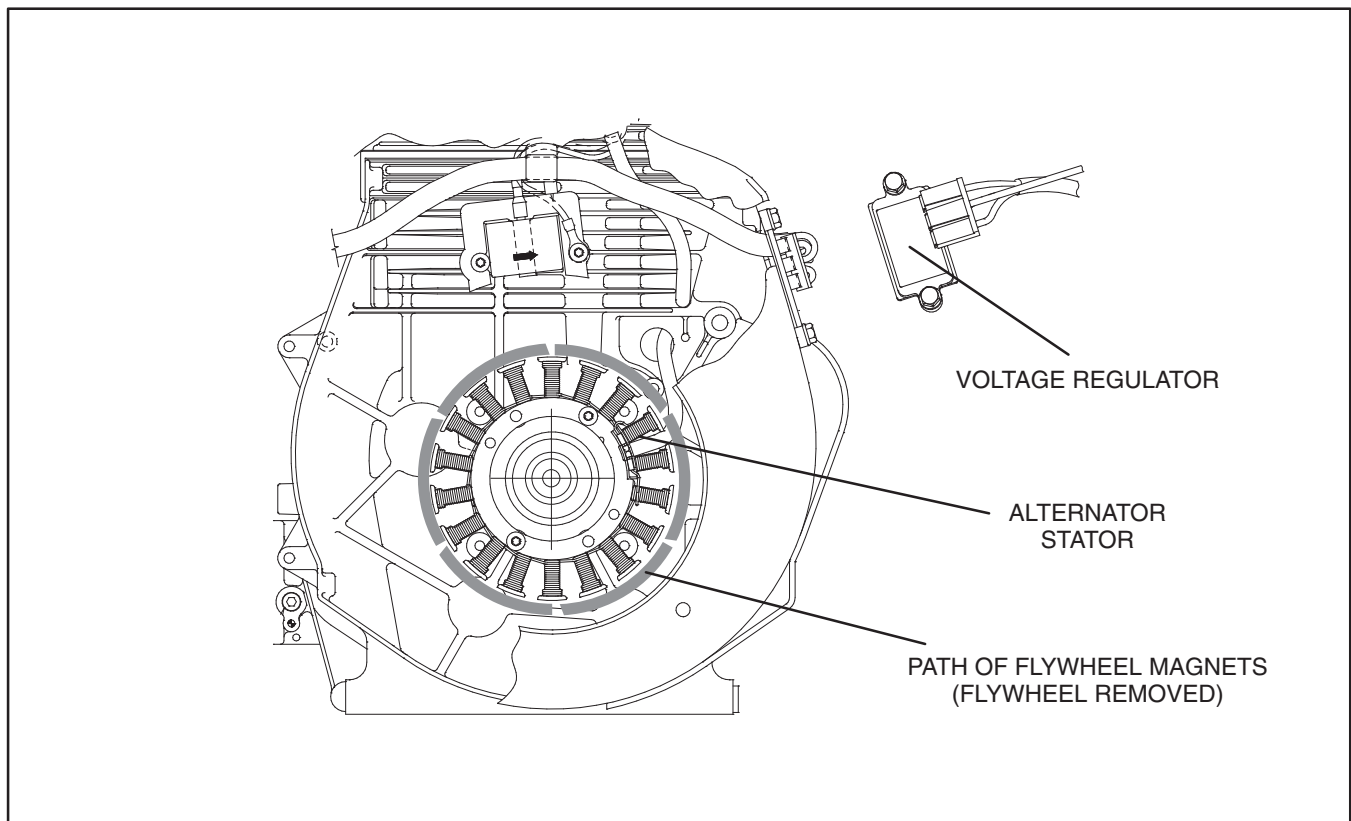

FIGURE 9-4. FLYWHEEL ALTERNATOR AND VOLTAGE REGULATOR
The engine may be equipped to provide a 12 volt DC (Direct Current) output for powering equipment accessories and/or recharging the cranking battery (Figure 9-4). The system consists of a permanent magnet flywheel alternator and a solid state rectifier or voltage regulator.
3. Disconnect the alternator stator leads from the voltage regulator (see Figure 9-4) or bridge rectifier and test for alternator stator output (AC voltage) with the engine running. If stator output is less than specified, go to Step 4. If stator output is as specified but voltage regulator output is low, replace the voltage regulator.